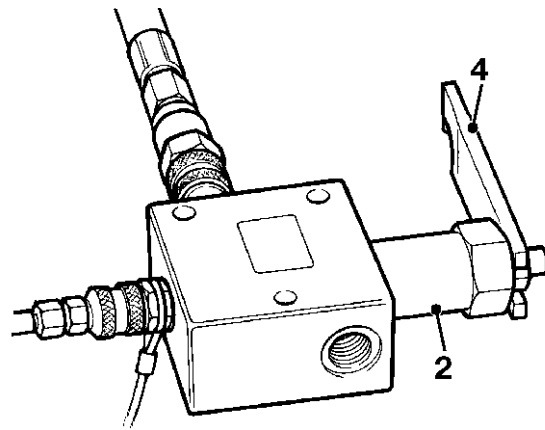

Fig 83.
- 10 Release the A.R.V. adjusting screw lock nut (see note): → Fig 83. (□ E-97)